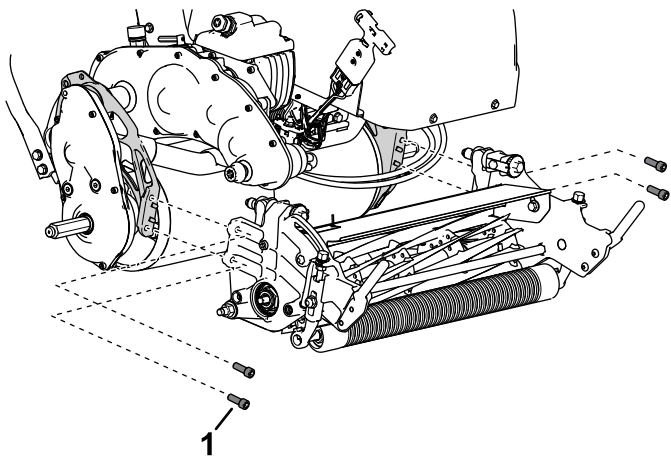

Figure 7
1. Use 4 socket-head screws to install the cutting unit to the machine (Figure 7).